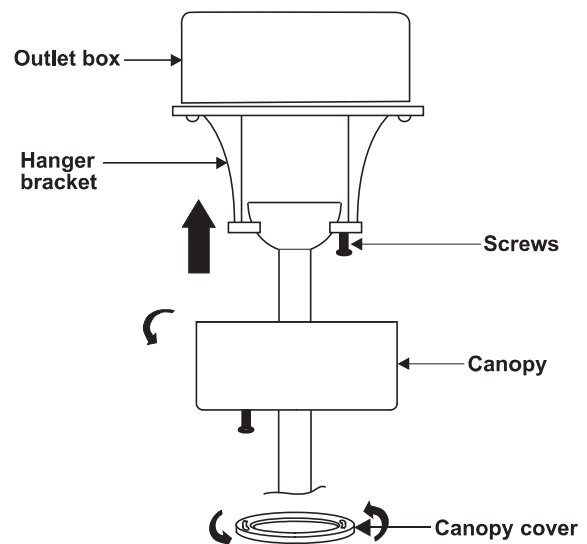

Figure 14
2. Slide the canopy up to hanger bracket and place the key hole on the canopy over the screw on the hanger bracket, turn canopy until it locks in place at the narrow section of the key holes. (Fig. 14)